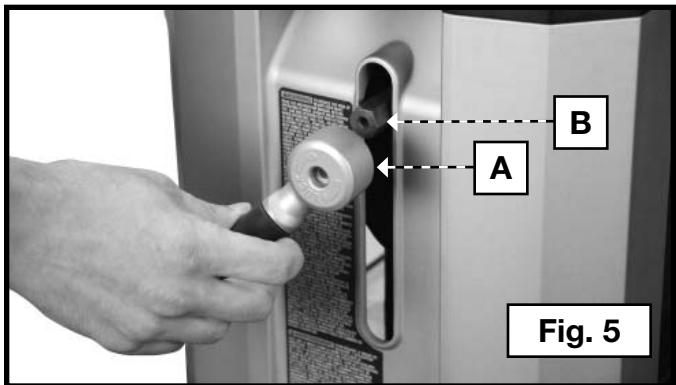

Fig. 5
Use the supplied wrench to attach the cutterhead lock handle (A) Fig. 5 to the shaft (B) with the M6 x 20mm star socket head screw and lockwasher.